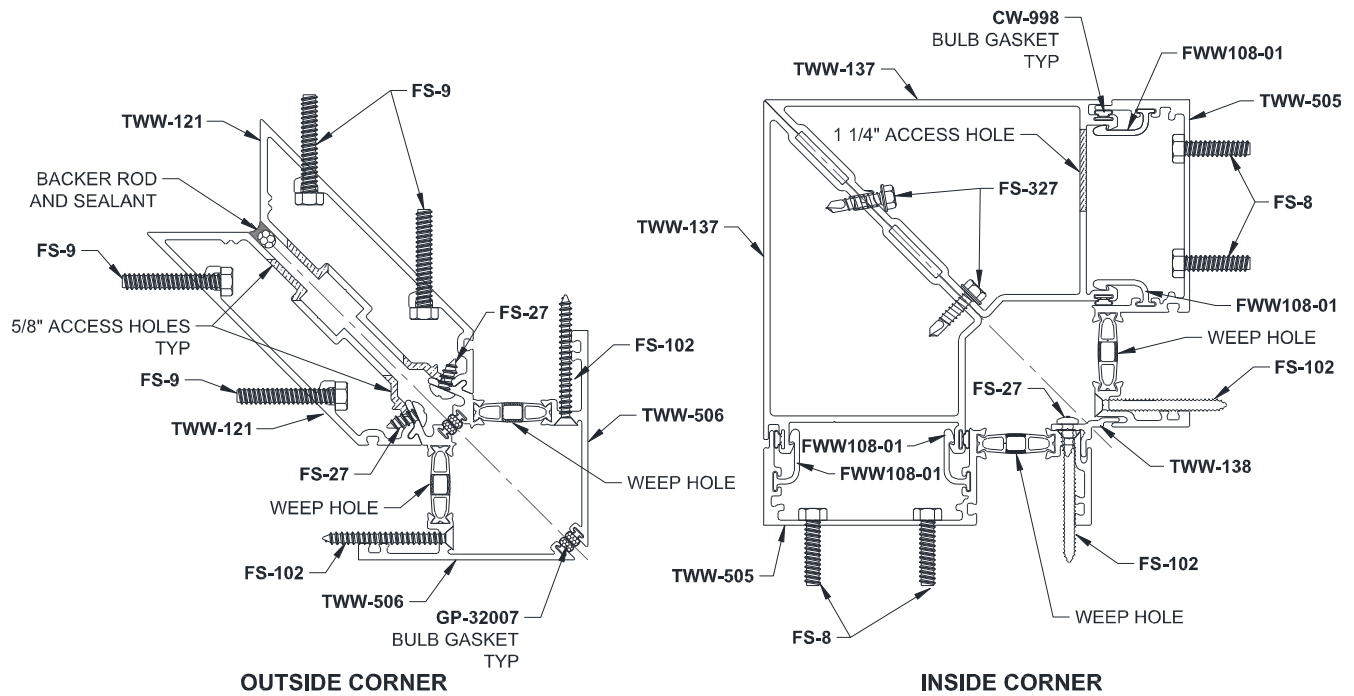

Figure 79: 90° Corners
- 21.2 For 90° corners, reference Figure 79 for connection detail and fastener information.